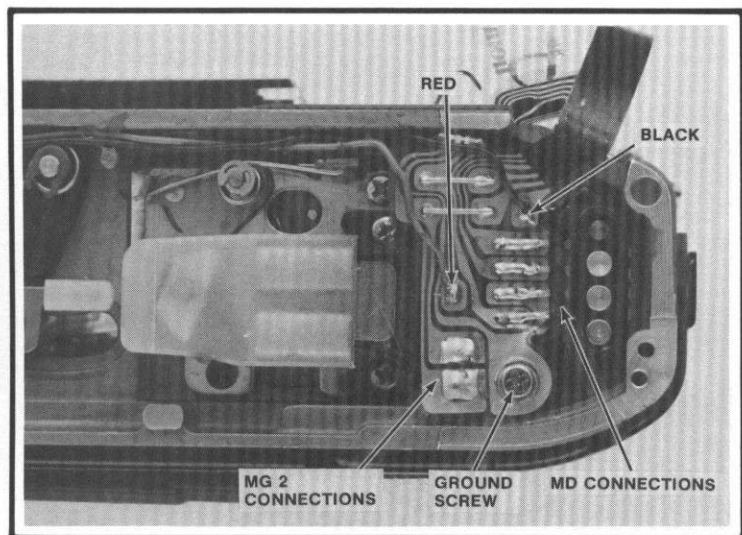
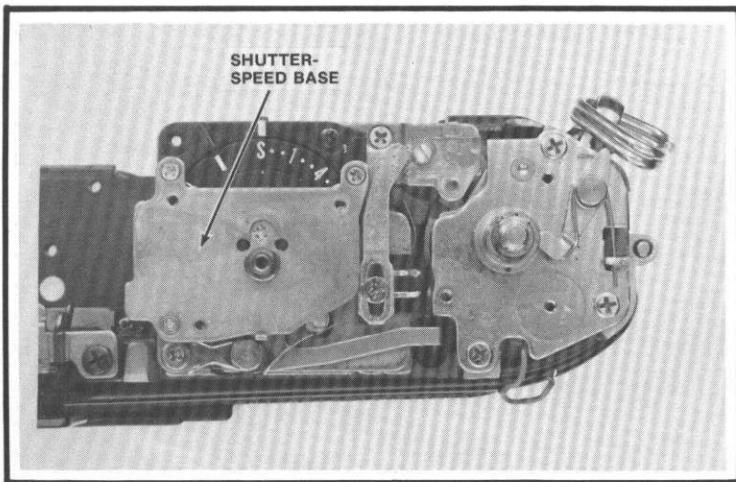

Figure 61
Figure 65
3. Unsolder the MG3 wires from the bottom of the flex, Fig. 61.
6. Remove the ground screw and washer at the bottom of the flex, Fig. 61.
7. Unsolder the 4 MD connections at the bottom of the flex, Fig. 61.
8. Unsolder the 2 MG2 connections, Fig. 61, as you lift the bottom section of the flex clear of the camera body.
To remove the shutter, first lift aside the top section of the flex circuit. Follow the procedure for removing the flex, but leave the bottom of the flex connected, Fig. 61. Also, you don't have to remove the shutter wiper or the TV contact plate. Rather, take out the three screws holding the shutter-speed base, Fig. 65.